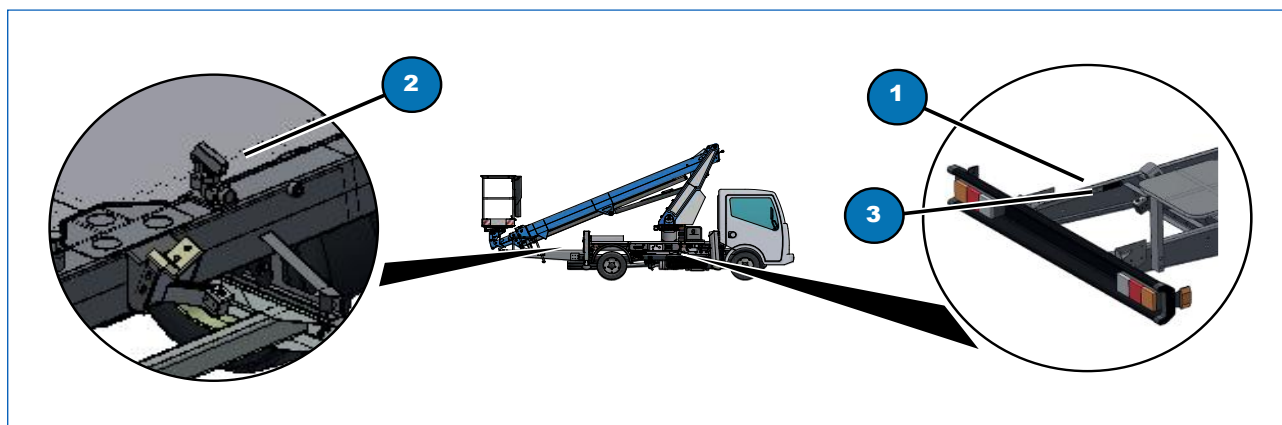

Fig. 5.5
The manual emergency pump 2 (Fig. 5.5) is installed on the frame's rear extension.
- Remove the lever (Fig. 5.5, 1) in the ladder by unscrewing the black locking knob (Fig. 5.5, 3) and attach it to the pump (Fig. 5.5, 2).
- Manually operate the lever of the emergency hand pump (Fig. 5.5, 2) and at the same time operate the electrical controls on the control panel.